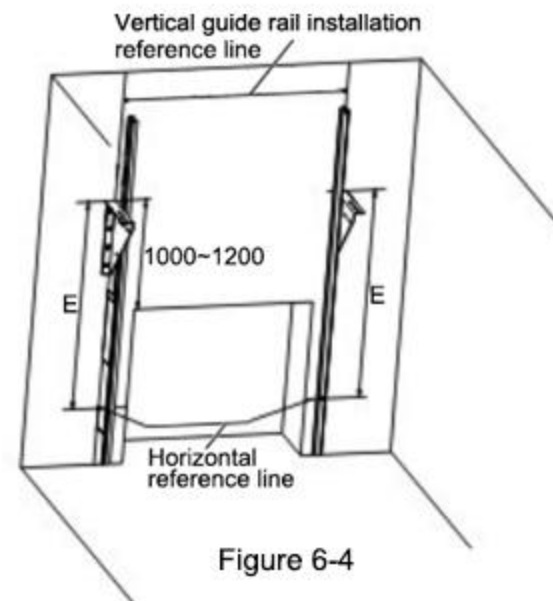

Figure 6-4
6.2.1 Installation of the vertical lift-type central beam structure 6.2.1.1 Positioning and installation of the beam bracket (Figure 6-4)